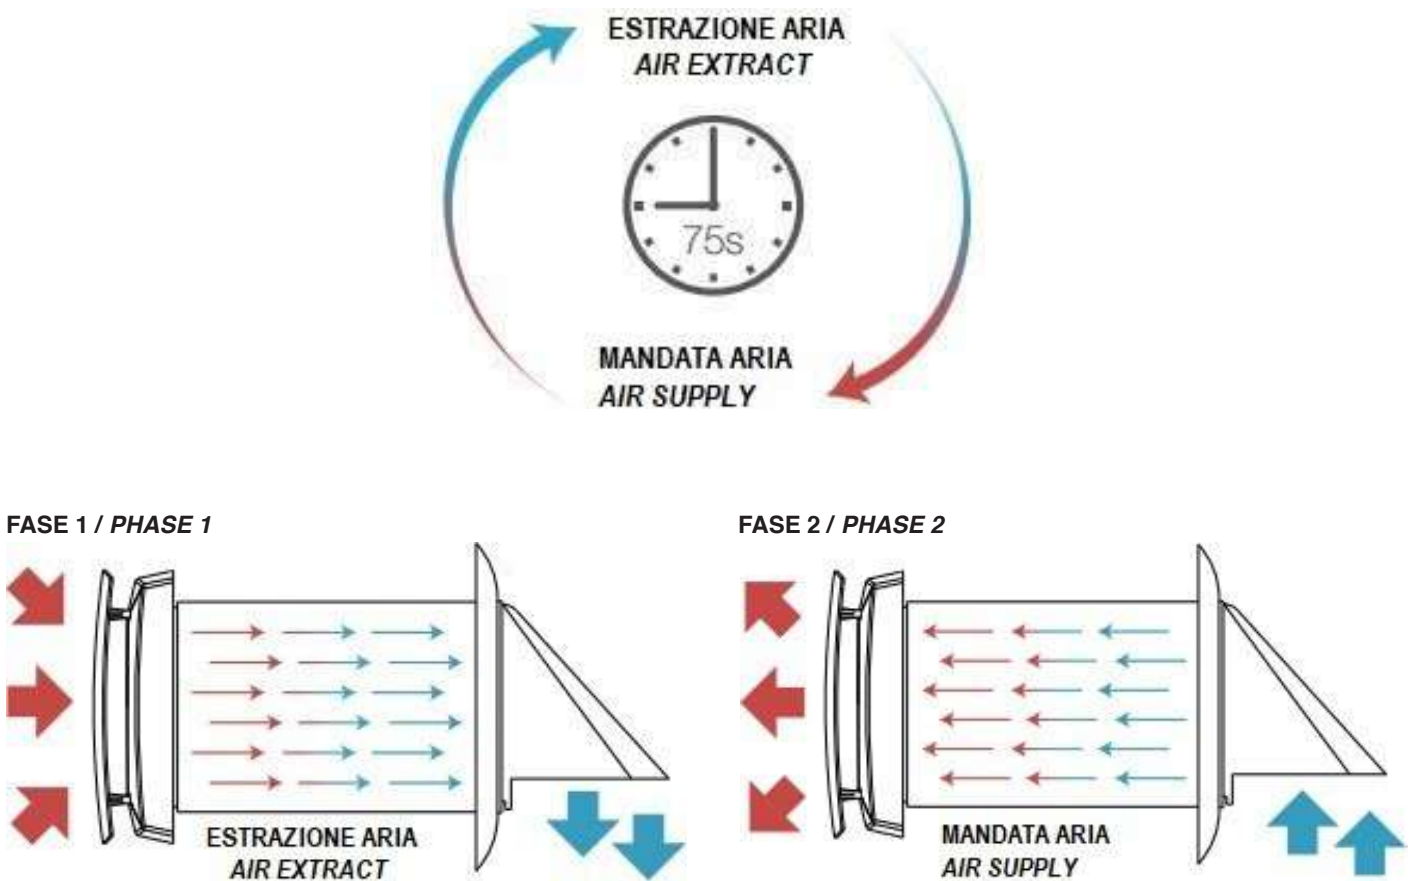

Fig. 4
1.5 FLUSSI ARIA (Fig. 4)
1.5 AIR FLOWS (Fig. 4)